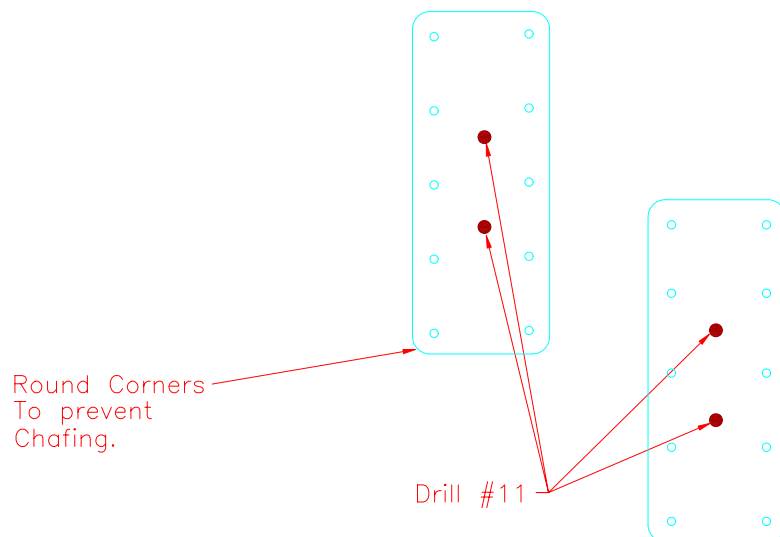

Figure 5
28) Back drill through the doublers for the bearing blocks. Figure 5.